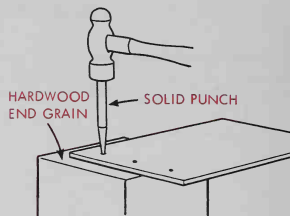

Fig. 5-41. Punching holes for rivets with a solid punch.
3. Drill or punch the holes. Holes in thin metal are usually punched. Place metal over the end grain of a hardwood block or a lead block. Set the punch over the place where the hole is to be punched. Strike the punch solidly with a hammer to form the hole, Fig. 5-41. To be sure the holes in the pieces being joined will line up, drill or punch all of the holes in one of the pieces, and only one hole in the second piece. Join the two